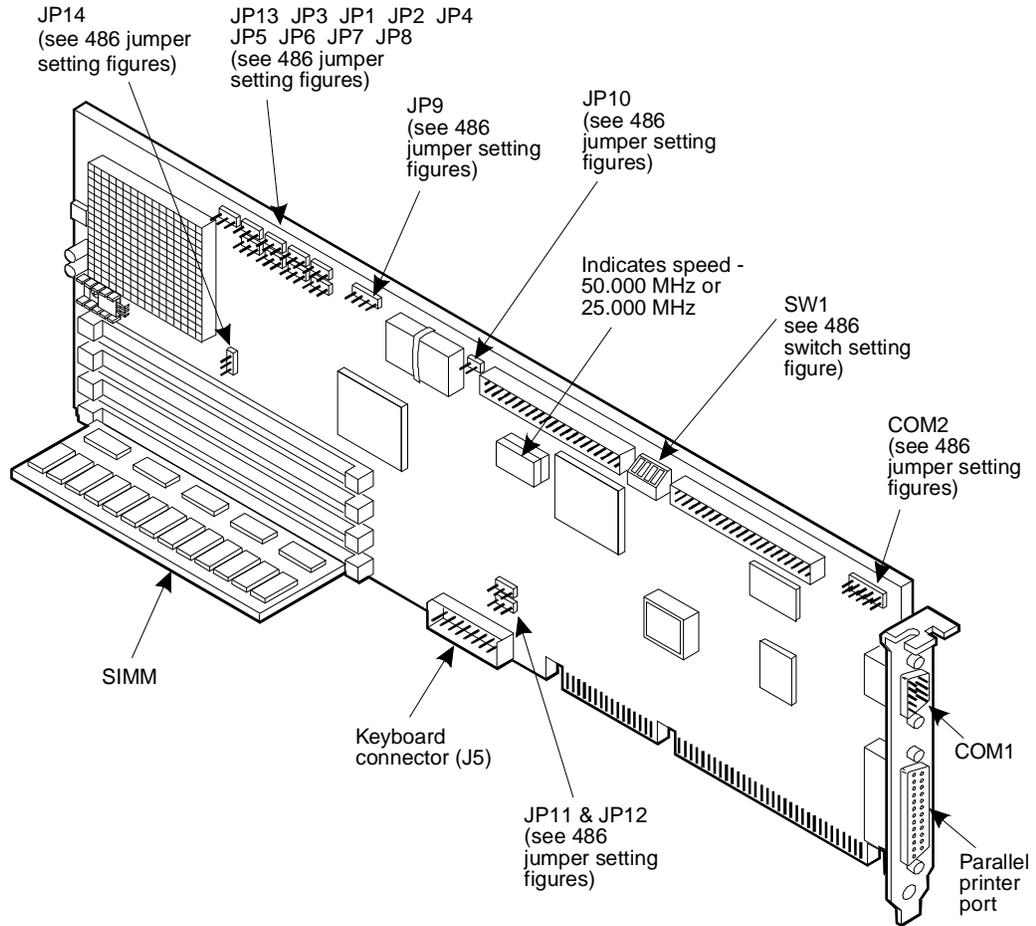

Figure 9-2. 486 CPU Circuit Card and Jumper Locations, Version 2
1. Verify jumpers that enable or disable the serial and parallel ports. Jumper settings are shown in Figure 9-2.